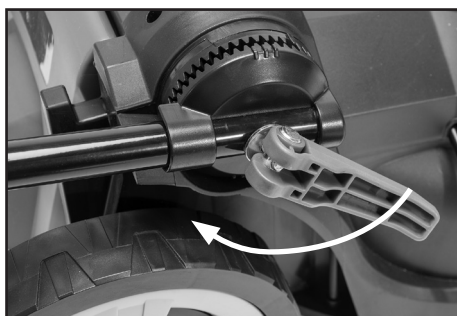

FIG.2
8.2 LOCK LOWER HANDLE IN POSITION – FIG.2